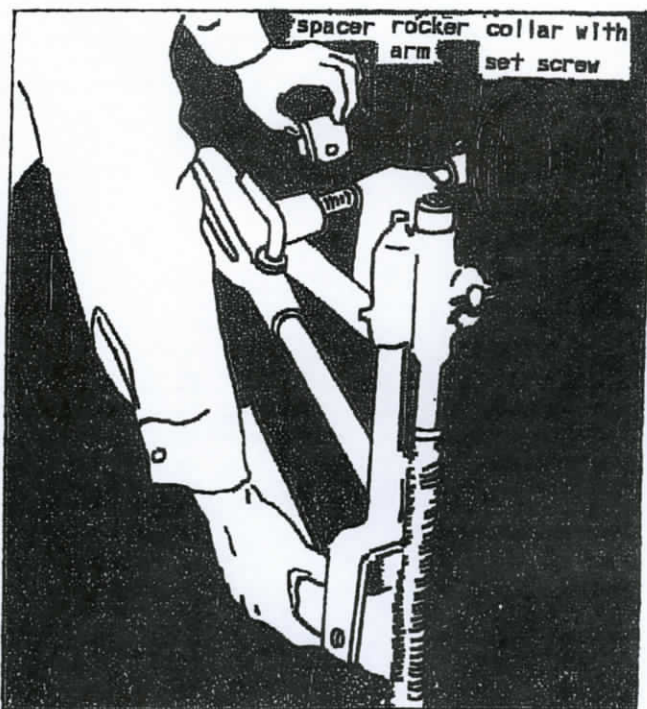

Fig. 7
4. Loosen the set screw on the collar of the lift rod. (See Figure 7) Lift the support assembly up by hand, and insert the spacer (which comes with Powell's fast hitch attachment) between the nut and rocker arm. Slide the collar against the front of the rocker arm shaft and tighten the set screw.